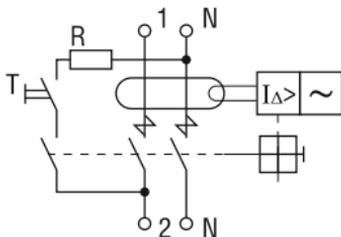

Figure 3 – Electric schematic diagram of two-polar VDs
2.5 Electric schematic diagrams of VD are shown in Figures 3 and 4.